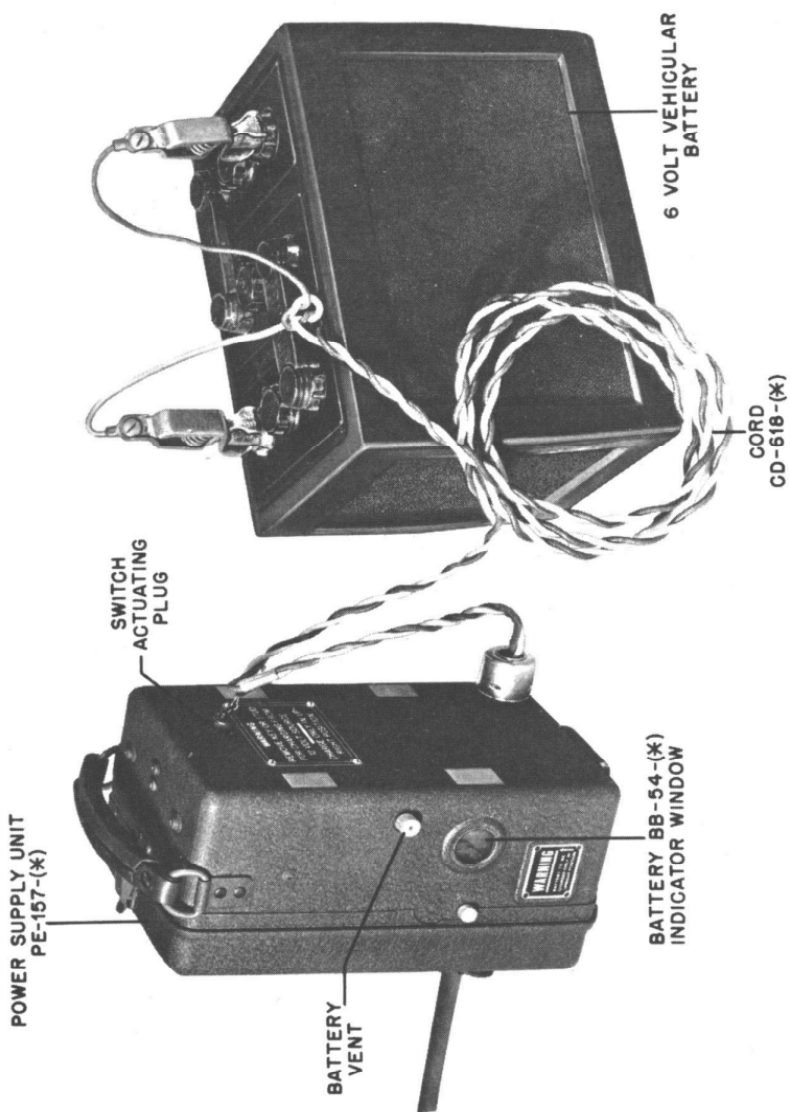

Figure 21. Method of Charging Power Supply Battery BB-54-(\*), Using Cord CD-618-(\*), and External 6 Volt Vehicular Battery
a. Battery BB-54-(\*) may be charged by mounting Power Supply Unit PE-157-(\*) in a vehicle equipped with Mounting FT-338-(\*). (See Paragraph 8 h (1).) Check the vehicular storage battery to determine whether it is six-volt (three cell) or twelve-volt (six cell).
b. Battery BB-54-(\*) may be charged from a six-volt (three cell) or twelve-volt (six cell) vehicle battery. Cord CD-618-(\*) connects the battery charger to the battery. (Figure 21) A plug is attached to the cord for actuating the six-twelve volt switch in Power Supply Unit PE-157-(\*). Figure 21 shows the plug in position when charging from a six-volt battery.